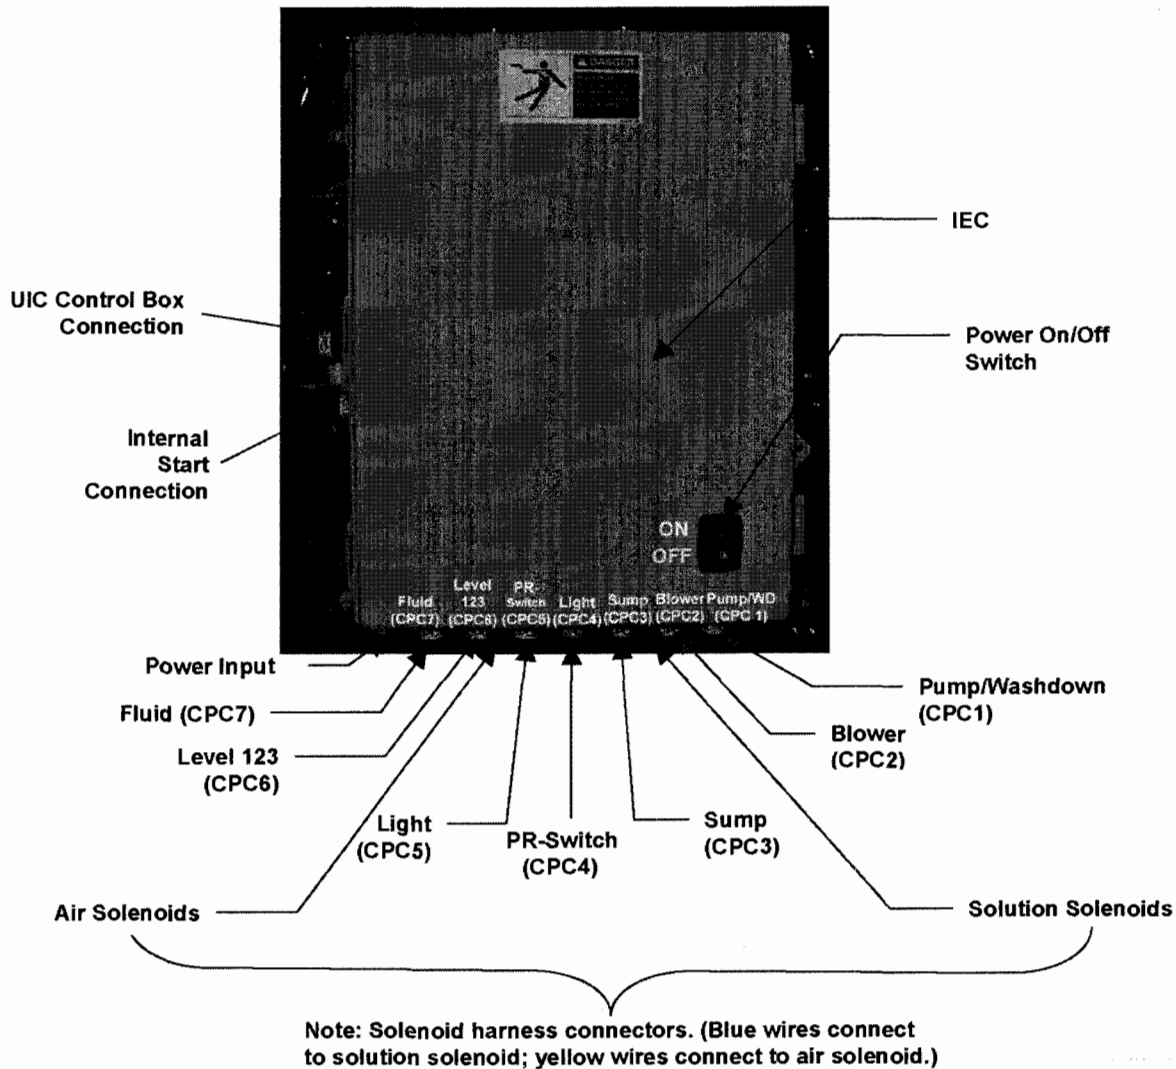
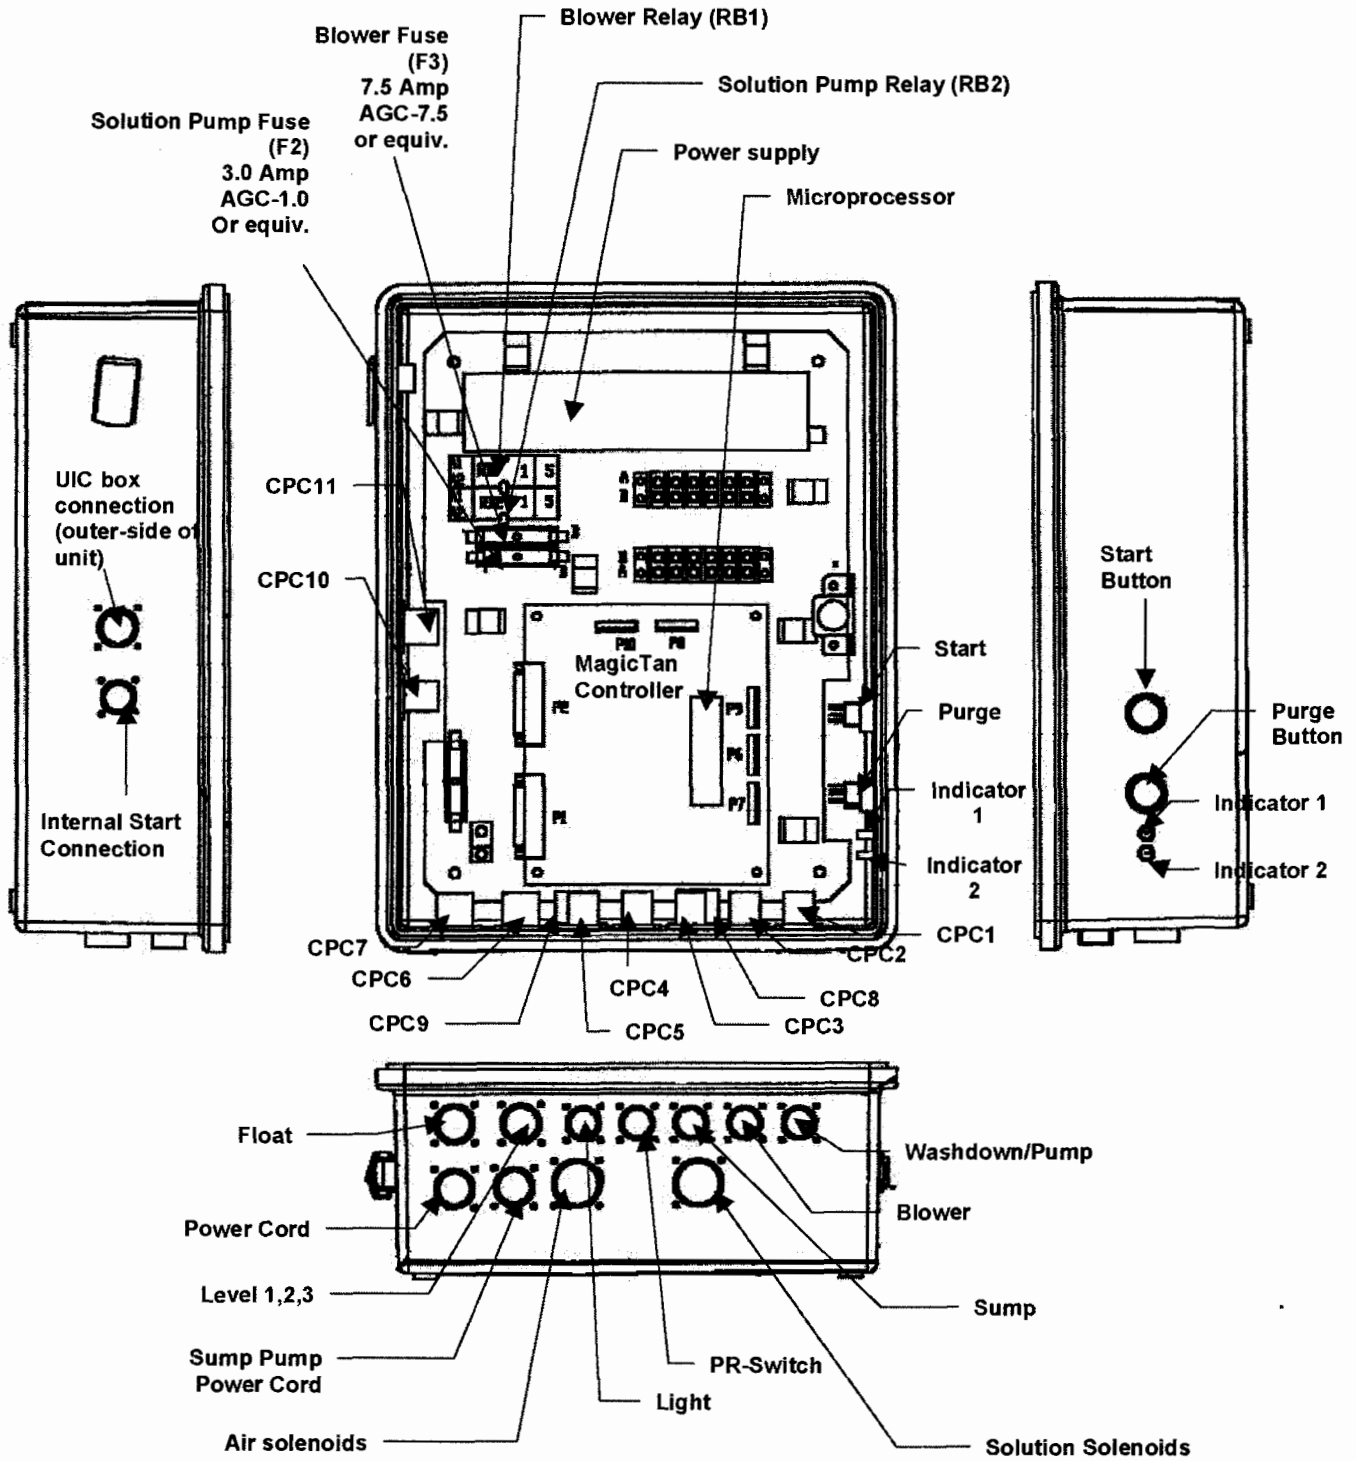

Figure 7: Location of IEC Connections & On/Off Switch
Figure 9: MT3000's Internal Electronic Controller (IEC) Component Layout
The MT3000's Integrated Electronic Controller (IEC) is located on the back of the MT3000. Figures 7 & 8 show where the controls/connections are located on the IEC, while table 2, page 11, describes their functions. Figure 9, page 12, shows an IEC component layout.
Step 2. Press the *Start Button* on (IEC). (See figure 7, page 10, for location.)